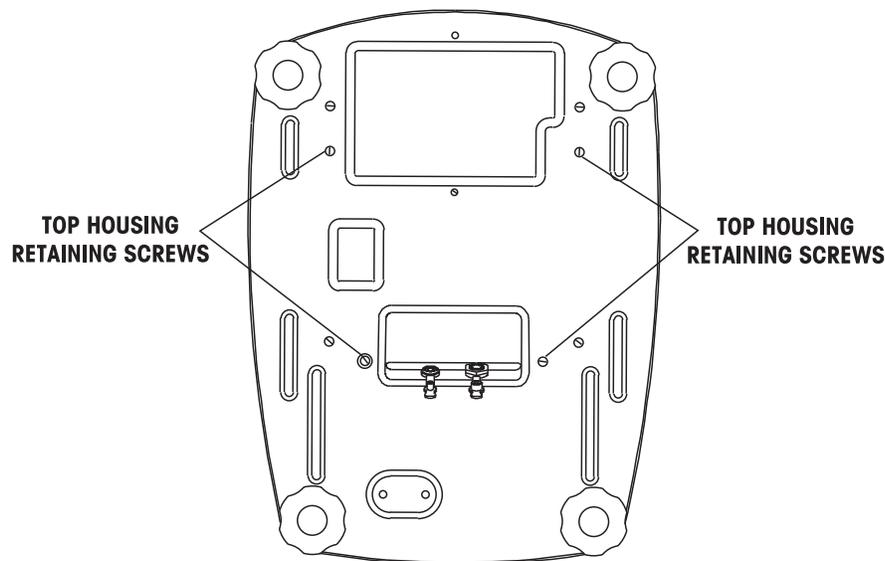

Figure 4-1. Top Housing Retaining Screws Location.
4. Turn the scale over and remove the four screws, which hold the Top Housing. Refer to Figure 4-1 Top Housing Retaining Screws Location.